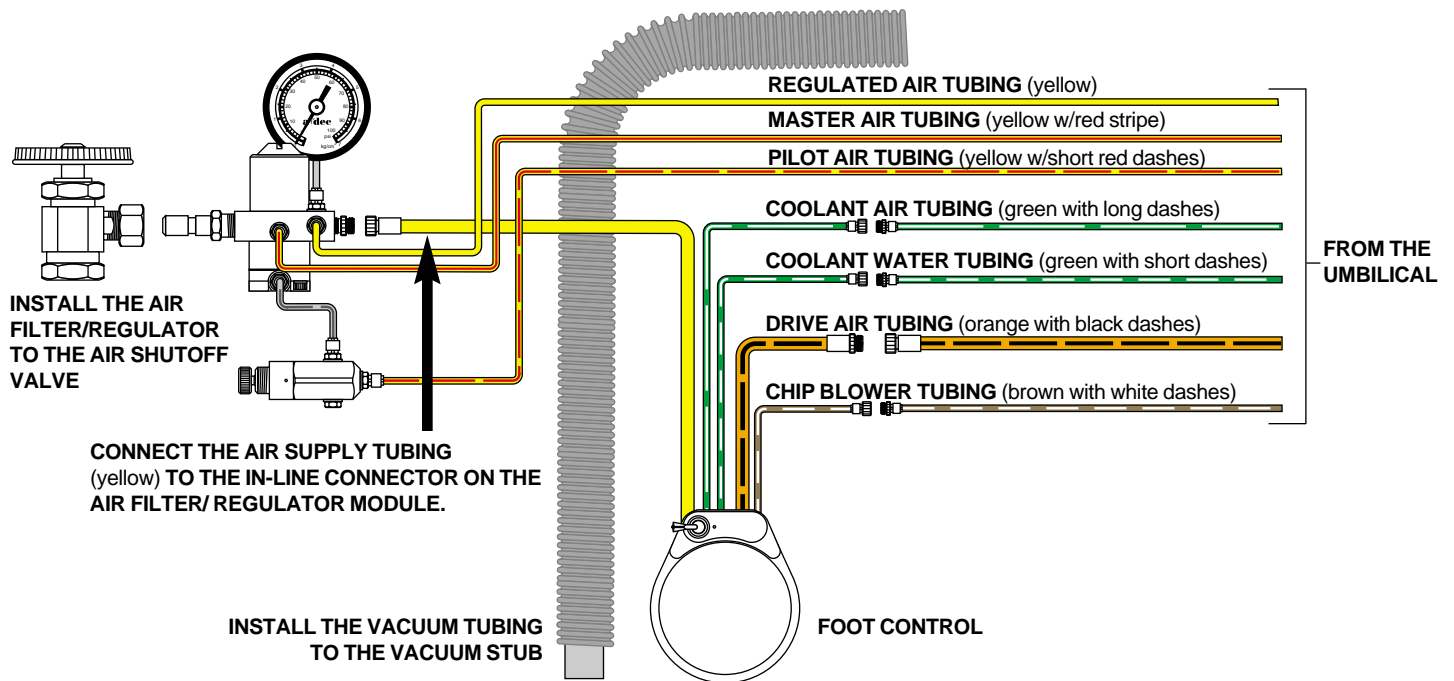

FIGURE 9
2. Connect the tubing as necessary (see Figure 9).